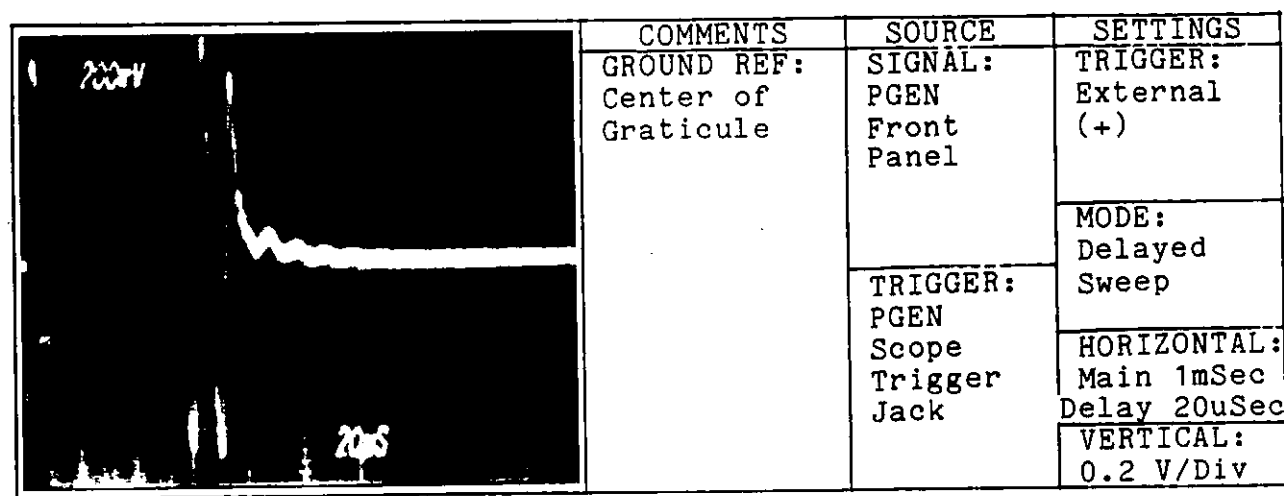

Figure 2.36. Transmitter Drive Waveform without Tail Drive
**2.7.1.1 INITIAL ADJUSTMENT PROCEDURE** The following are step by step instructions for adjusting the Group Droop module. Figures 2.36 through 2.37 referenced during these steps are signal waveforms for a dual-rated station. If you are unable to obtain any of the waveforms described in this procedure, first ensure correct test equipment setup. Return the module for repair if this doesn't correct the problem. Due to cross-rate blanking either rate signals may disappear momentarily.
a. Monitor the Transmitter Drive Waveform at the PGEN front panel jack. Using the delayed sweep mode of the oscilloscope (20usec/div), display the drive waveform for the 5th pulse (see figure 2.36).